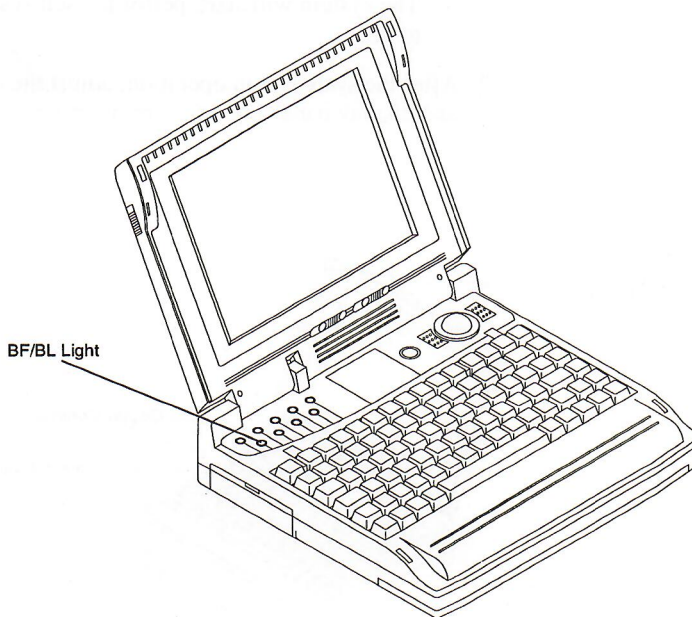

Figure 1-6
- After the battery pack is fully recharged the BL/BF indicator on the 8200 will light up green and the battery charger will automatically switch to trickle charge mode. See Figure 1-6.